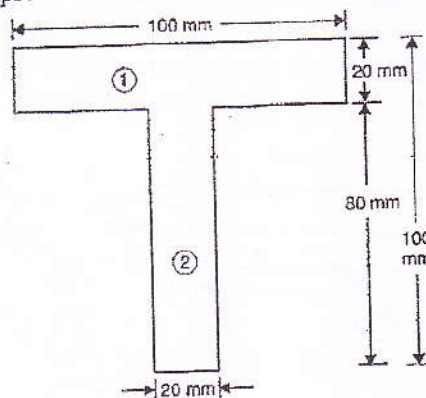

Fig.5.
- b) A cast iron beam is of T- section as shown in fig 5. the beam is simply supported on a span of 8 m. The beam carries a UDL of 1.5kN/m on the entire span. Determine maximum tensile and maximum compressive stresses.